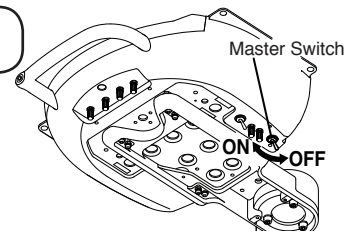
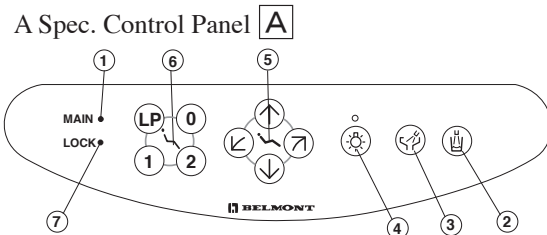
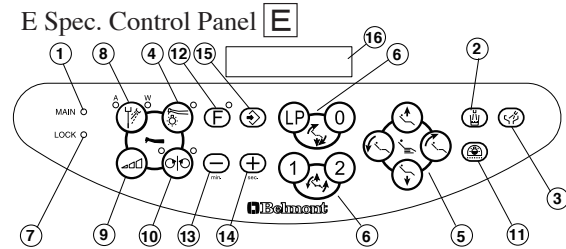

Fig.3-1 Master Switch
Fig.3-2 A Spec. Main Control Panel
Fig.3-3 E Spec. Main Control Panel
(1) Master Switch (Fig.3-1, Fig.3-2 & Fig.3-3)
Turn on the master switch located under the right hand side of the doctor table, the power indicator on the main control panel will then illuminate green. (Fig.3-2&3-3 ①)